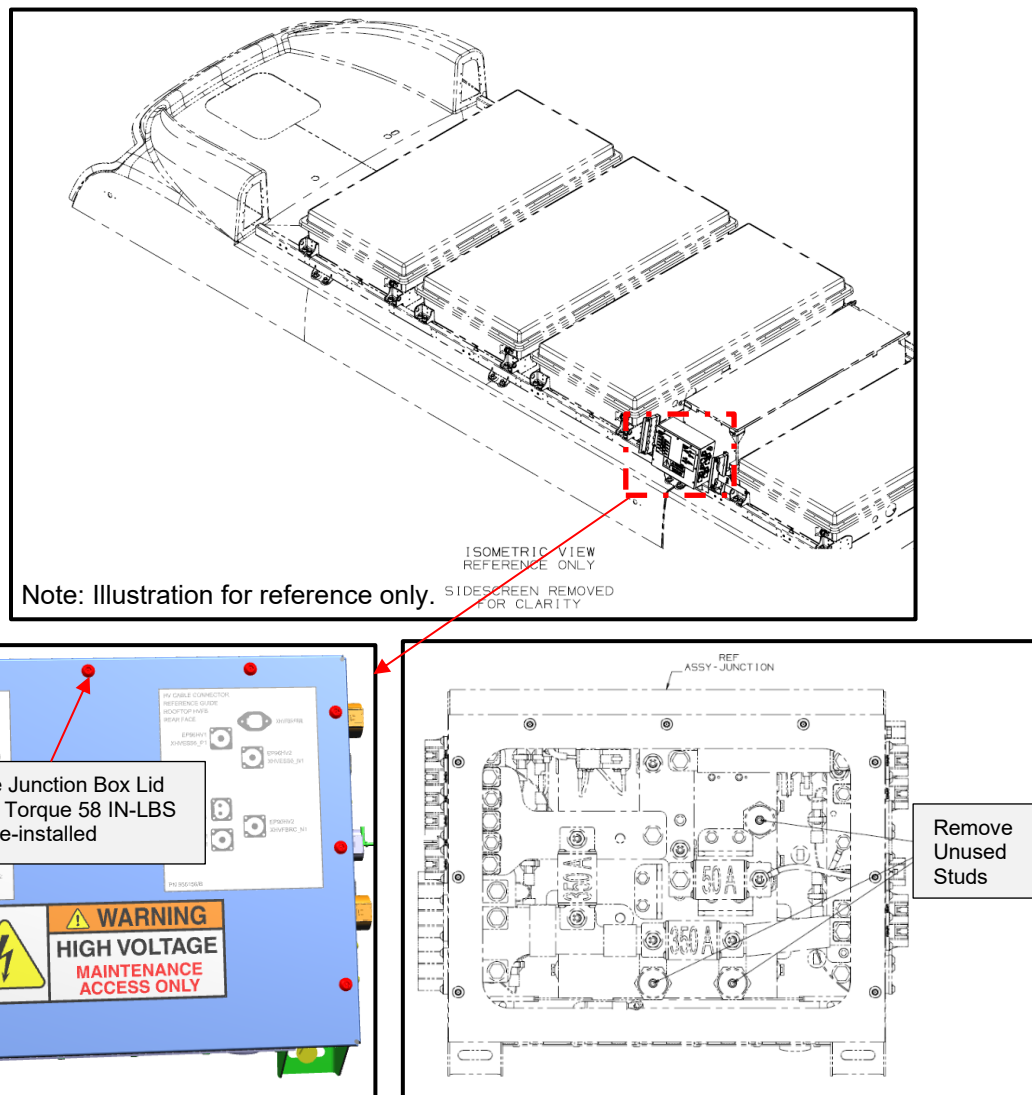

Figure 2: Street side upper junction box stud removal location reference.
7. Ensure no voltage is present before work begins. Using the appropriate fall protection, gain access to the upper street side of the bus and remove the hardware securing the side screen in place to gain access to the HV junction box. Set the side screen hardware aside for re-installation. See Figure 2.
8. Remove and set the junction box lid mounting hardware aside for re-installation and open the lid on the junction box. See Figure 2.
9. Locate the unused studs shown below and remove and discard them. See Figure 2.
10. Ensure all tools and debris are removed from inside the box and close and re-secure the lid with the original screws torquing them to 58 IN-LBS. See Figure 2.